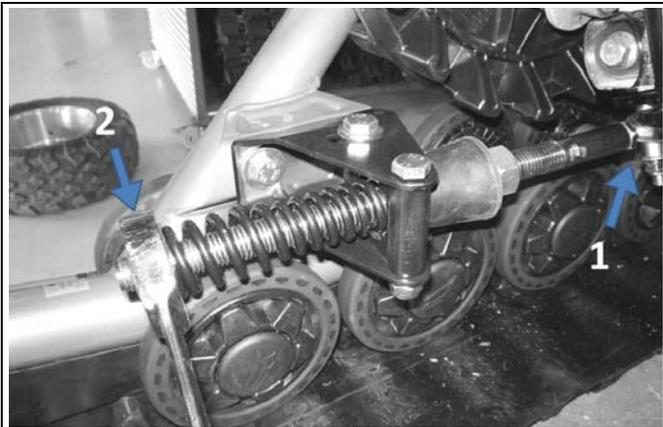

Figure 10
- Attach stabilizing rod (1) to anchor bracket installed on the suspension a-arm. (See Figure 10).
- Loosen nut (2) compressing the spring of the stabilizing rod. The nut does not apply pressure on the spring (refer to Figure 10).